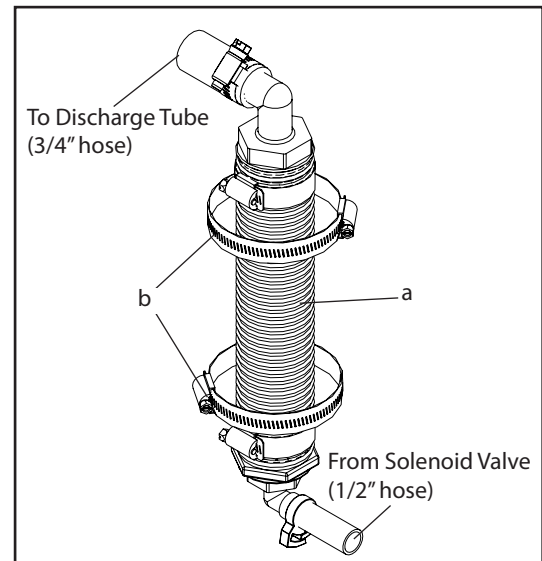

Figure 3: Mixing Chamber Mounting
1. The foam mixing chambers (a) must be mounted in a vertical position and can be secured with the four (two for each mixing chamber) large hose clamps (b) included in the kit. The mixing chambers must be mounted with the 1/2" inlet (from solenoid valve) on the bottom, and the 3/4" outlet (to discharge tube) on the top. They should be positioned behind the sprayer or somewhere on the inner boom wing (Figure 3).
2. It is best to locate the mixing chambers where most of the 3/4" discharge hose can be used. (Limited to 25') This keeps the 1/2" hose shorter and will result in better foaming performance (Figure 3).